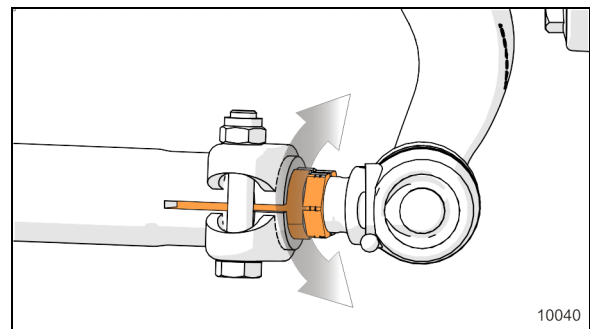

FIGURE 49: FINE ADJUSTER SLEEVE ON TIE ROD
- b. Turn the adjuster sleeve (Figure 49) until the specified toe-in measurement is obtained.